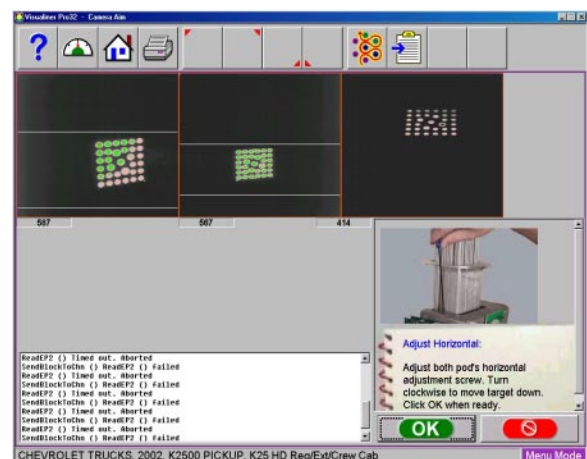

Figure 5-14
9. Make sure that both camera pod rotation levers on the bottom of the cameras are set in the middle of their travel and that the each camera pod starts in a level position. If the cameras are not aligned within the Horizontal lines (Figure 5-14 ) adjustments to the camera can be made by adjusting the hex head cap screw on the camera pods. Press "OK" to continue.